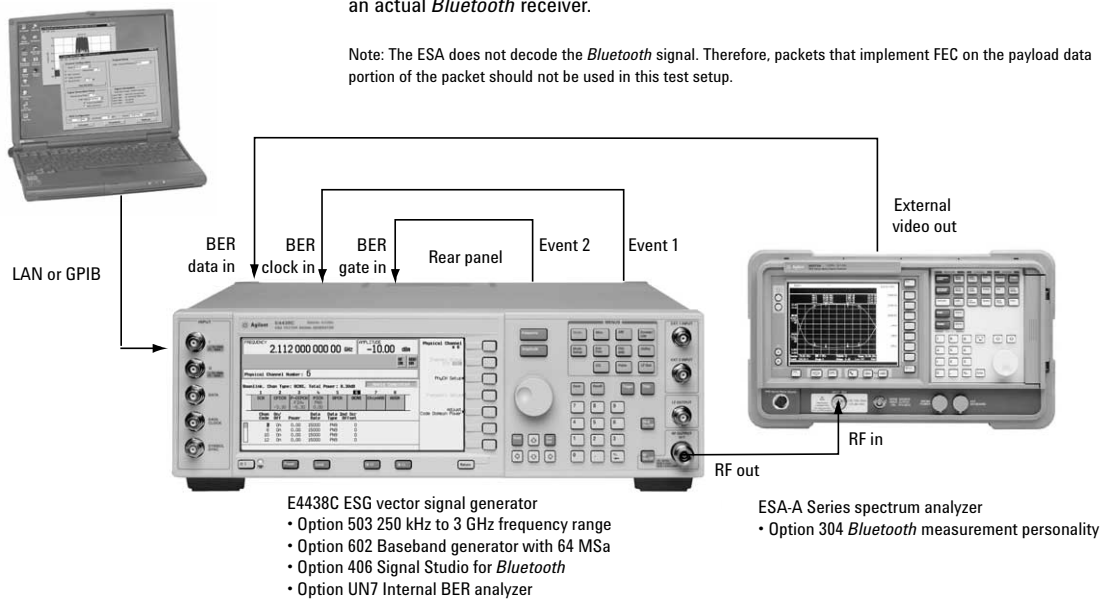

Figure 42. Example BER measurement set up using the ESA to demodulate the *Bluetooth* signal generated by the ESG.
This example illustrates the procedure for performing clock/gate delay calibration using Signal Studio. In this example, the measurement setup illustrated in Figure 42 is used. This is very similar to the test setup illustrated in Figure 40; however, for demonstration purposes, the Agilent ESA series spectrum analyzer (with the *Bluetooth* measurement personality) is used to demodulate the *Bluetooth* signal generated by the ESG instead of an actual *Bluetooth* receiver.
1. Connect the test setup as shown in Figure 42 and preset the ESG.